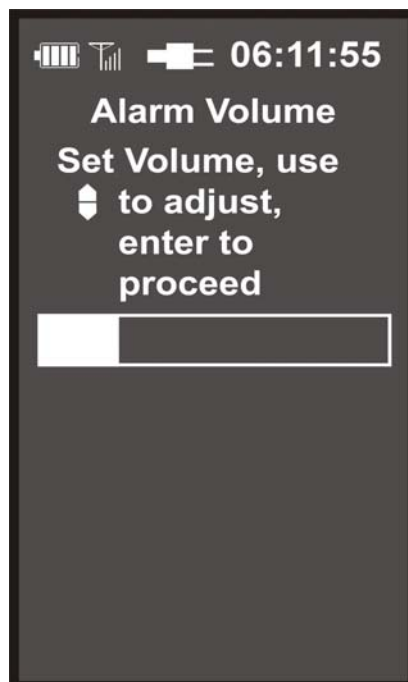

Figure 4-9. Alarm Volume Adjustment Screen
4.7.2 Alarm Volume The MRidium™ 3850 MRI Infusion Pump allows the clinician to adjust the audio volume for user alerts and alarms (See Figure 4-9). The pump will sound the alarm during adjustment to provide an indication of the current setting of the volume. The volume range is on a visual sliding scale. Perform the following to adjust the Alarm Volume: